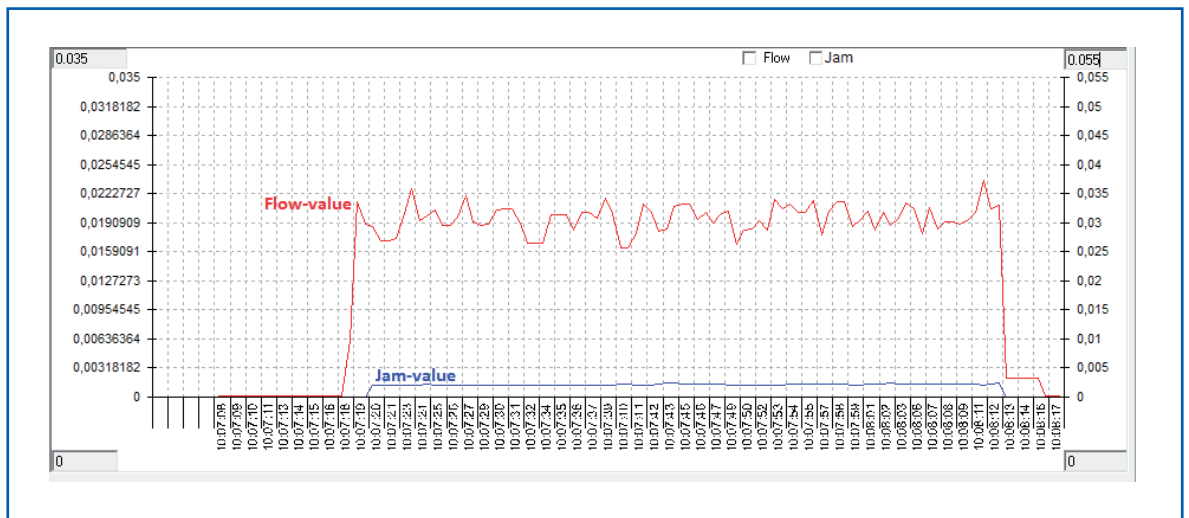
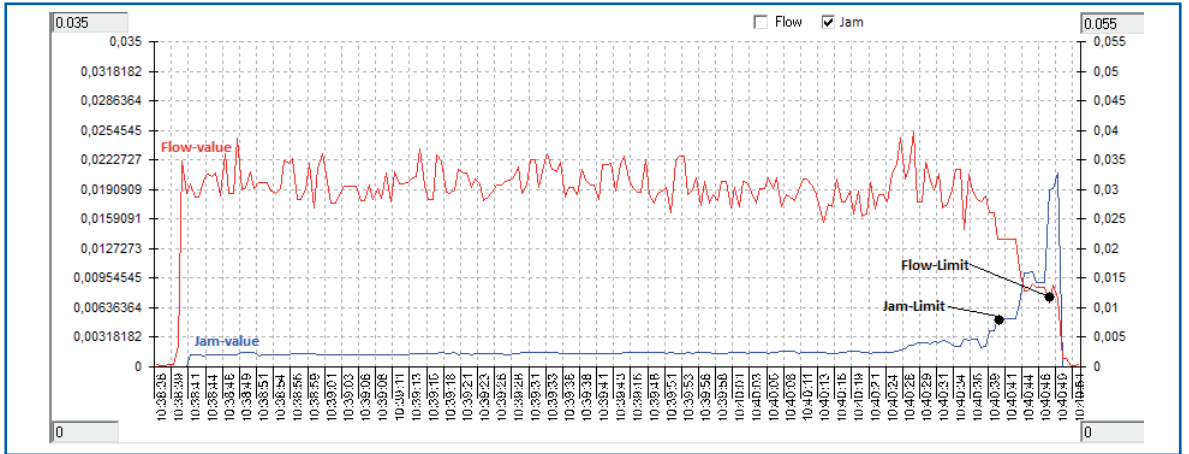

Fig. 13: Flow trend - without plugging
Fig. 14: Flow trend - development of a plug at the end
An example of a typical trend is shown in figure 13 below.
10. If possible, create now a blockage and let the pipe fill up with material. This blockage should be visible in the trends, similar like in figure 14. Unlike the previous trend in figure 13, at the end, the “Jam-value” should rise vice versa to the “Flow-value”. If a forced blockage is not acceptable, you can skip this point, and the FlowJam Plus will use the factory defaults.
- The “Flow limit” and “Jam-limit” parameters can be found in the “Flow” register (Fig. 15). The previous trends can be used to adjust the “Flow/Jam-limits”. Consider that only the correct “Jam-values” will be calculated, as soon as the “Flow-limit” will be underrun. A proper example to find the right limits, is shown in figure 14. The calibrated values will be rounded by the software automatically, so the results may vary.